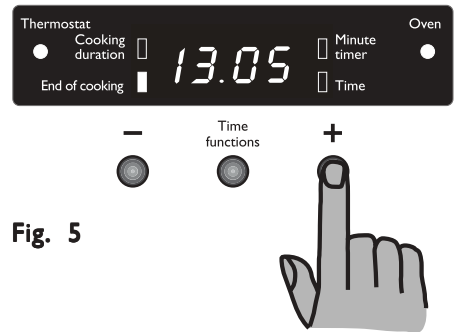

Fig. 5
1. Press button “+” or “-” (Fig. 5).